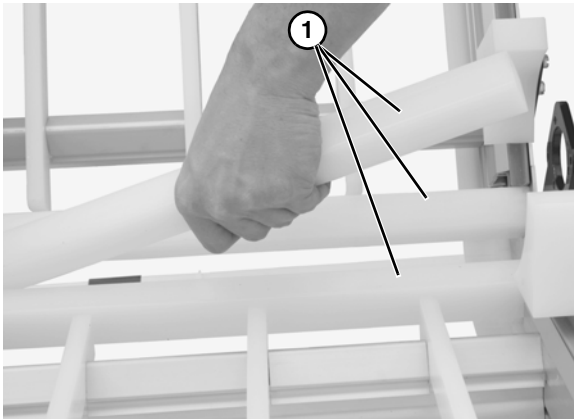

Figure 76
6. Remove knuckle belt supports (**Figure 76, item 1**).